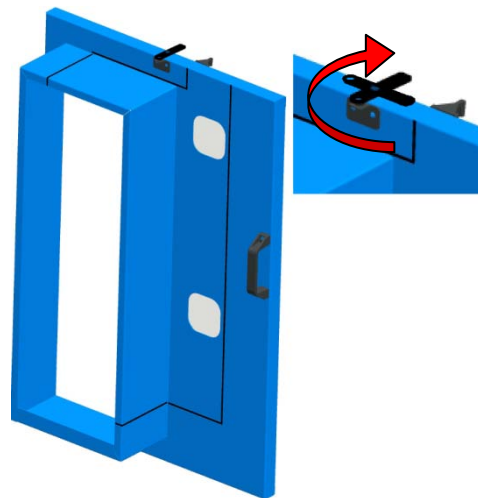

Figure 5: Removing the door
- Turn the locking latch, located at the middle of the door (Figure 5).